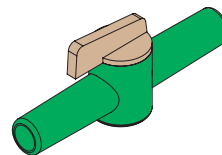

Figure 3-5 Open
10. Open the valve between the pump and the ingredient bag. (*see figure 3-5*).